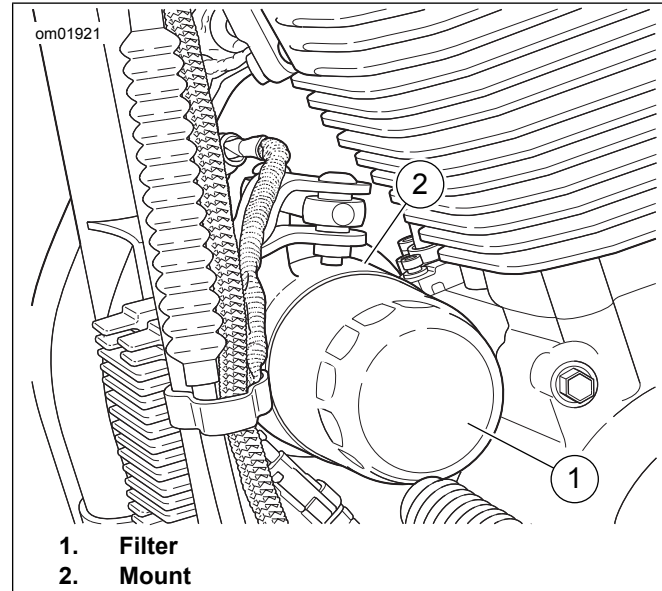

Figure 43. Oil Filter
See Figure 43. Turn filter (1) counterclockwise to remove from mount (2).